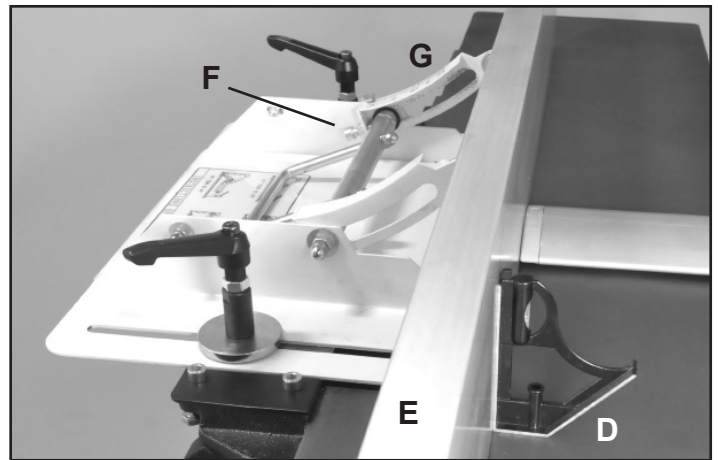

FIG. 8
4. To set the fence at 90° to the table surface, set a try square (FIG. 8, D) against the fence extrusion (E).